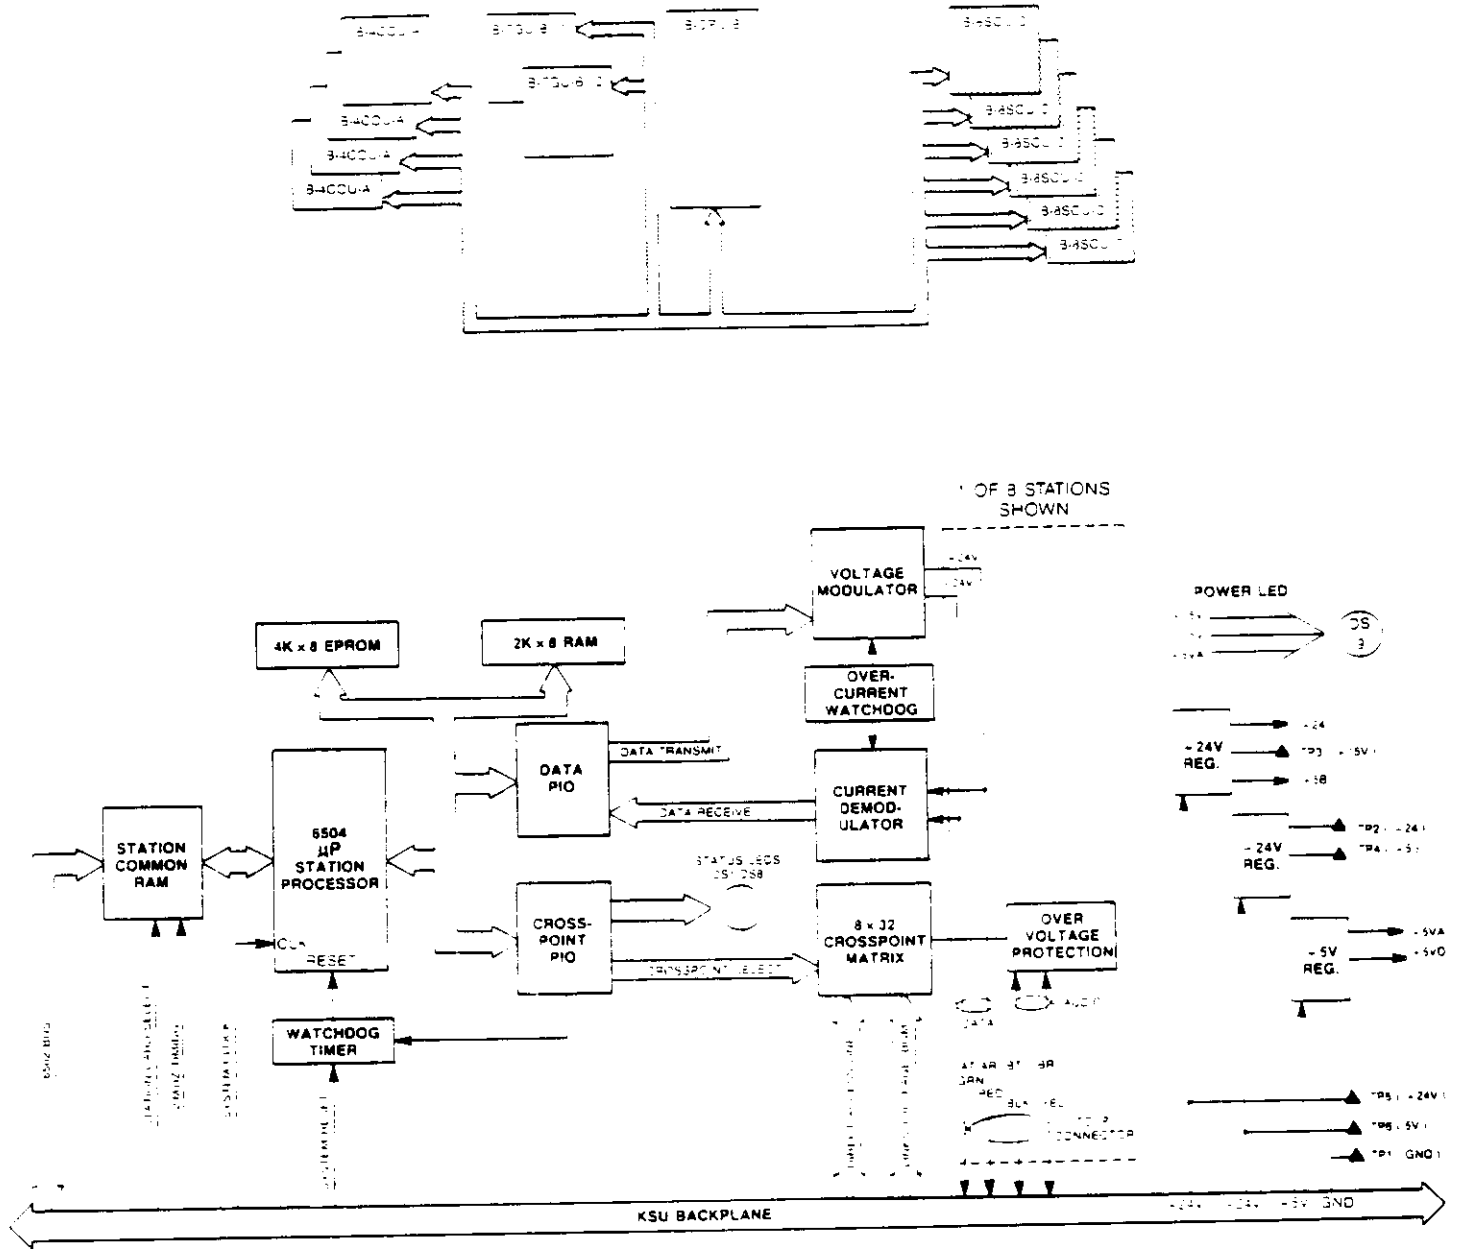

Figure 8-11 B-8SCU-C STATION CONTROL UNIT PCB BLOCK DIAGRAM, EK-824/1232/1648
3.29 The B-8SCU-C PCB (Figure 8-11) is the control unit for eight multibutton and/or four button key stations. The heart of the B-8SCU-C PCB is the 6504 station processor. This processor works with the 6502 traffic controller in the B-CPU-B to monitor the data flow to and from the telephone, and connect the telephone audio path to the outside lines and other stations in the system.